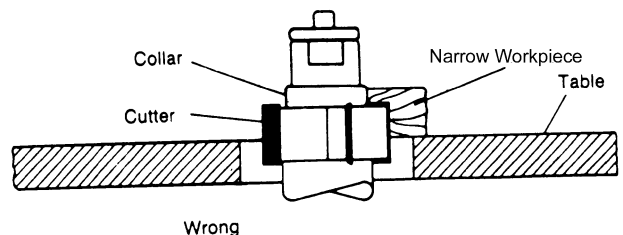

Fig. 13
- Under no circumstances should a small workpiece be shaped against the collars as shown in Figure 13.**